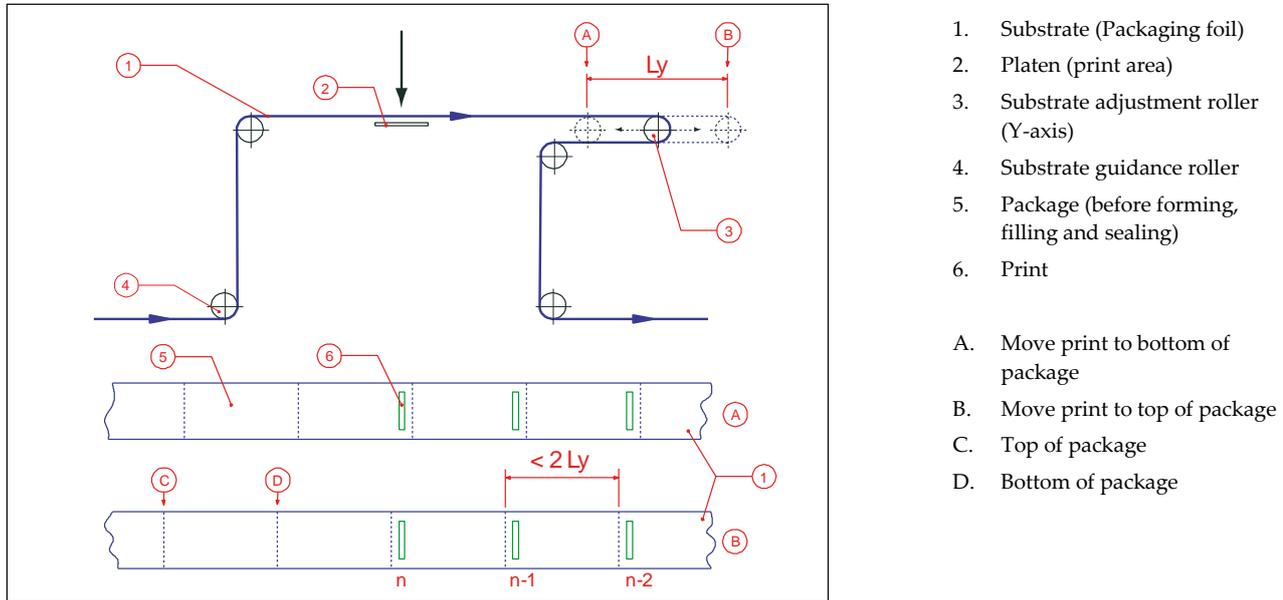

Fig. 6.4 Substrate adjustment.
The print position can be moved with the substrate adjustment roller, Fig. 6.4 item 3, between the top and bottom of the package. Be aware that the substrate contains an amount of prints/packages between the print area and the seal area. So a substrate adjustment takes only effect after a certain amount of prints.